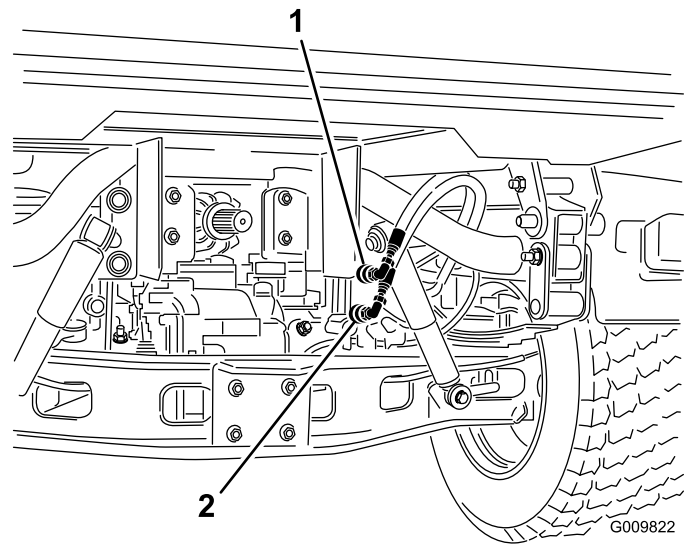

Figure 74
2. On both machine, disconnect the 2 quick-coupler hoses from the hoses secured to the coupler bracket (Figure 74).